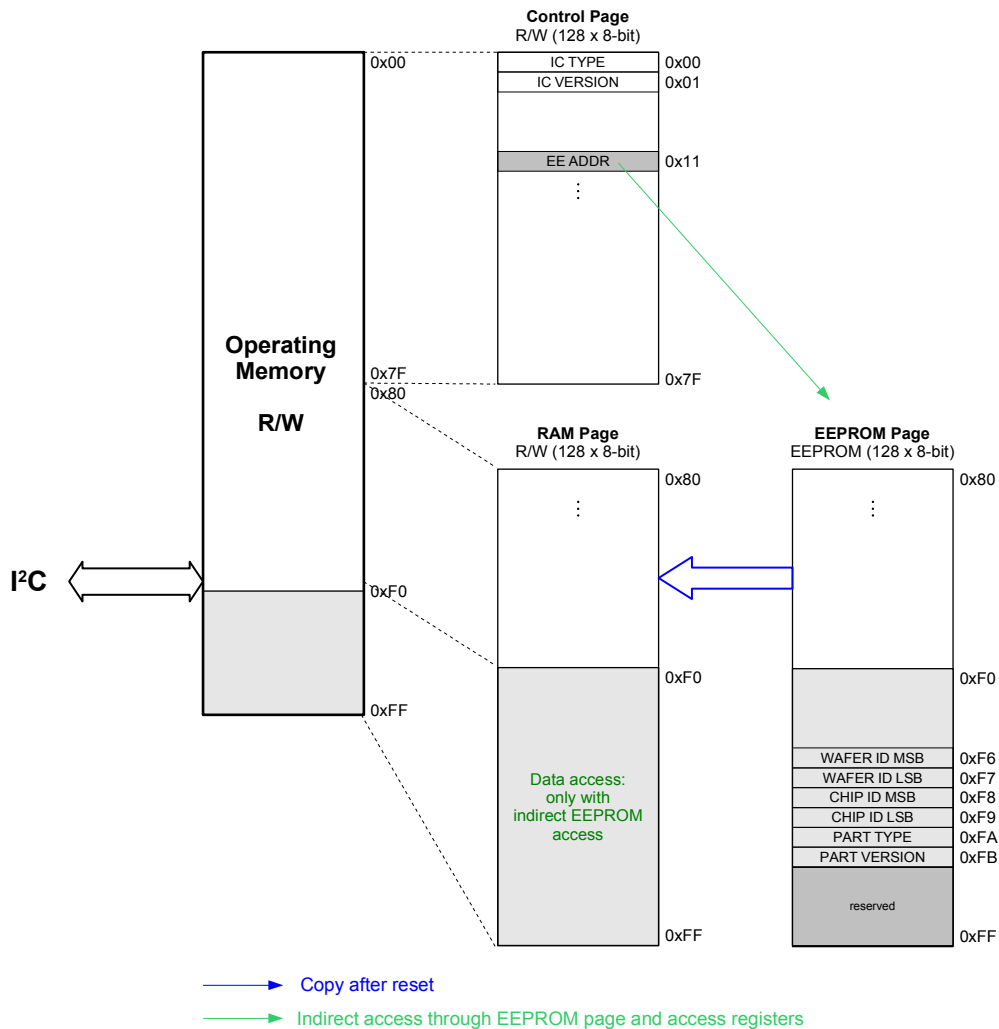

Figure 60: Memory map
The I2C-bus interface allows accessing the RW registers and the programming of the EEPROM registers which store the configuration parameters. It is the only interface through which the configuration registers can be accessed (Figure 60 and Table 32) by the application. It works as a slave device according to the I2C specification (refer to chapter 16.2.) with a transfer rate of up to 400 kbit/s in Fast Mode (FM) or 1Mbit/s in Fast Mode plus (FM+). The I2C master such as an external CPU can set the transfer speed simply by driving the SCL input at that frequency (up to 1MHz), therefore there is no prior register configuration or setting necessary.